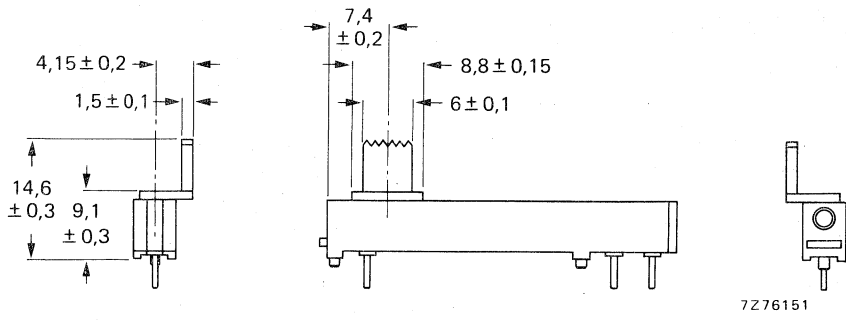

Fig. 1b Potentiometer with asymmetrically placed slider.
- 2 = asymmetrically placed (Fig. 1b)